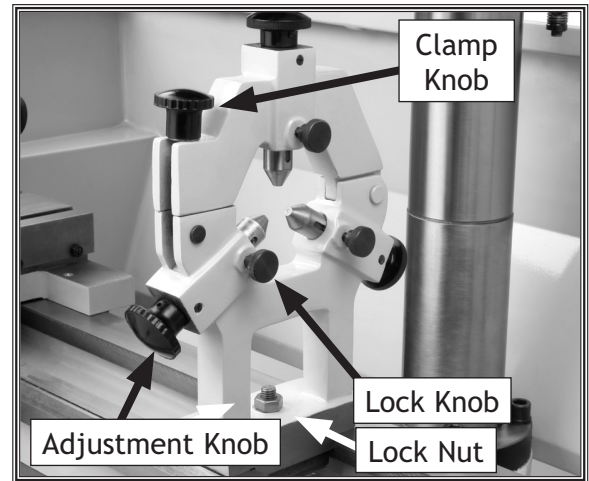

Figure 32. Steady rest adjustments.
2. Loosen the lock knobs so the finger position can be adjusted (see **Figure 32**).
3. Loosen the clamp knob (see **Figure 32**) and open the steady rest so a workpiece can fit inside of the fingers.
4. Position the steady rest where desired. Tighten the lock nut (see **Figure 32**) at the base of the steady rest to secure in place.